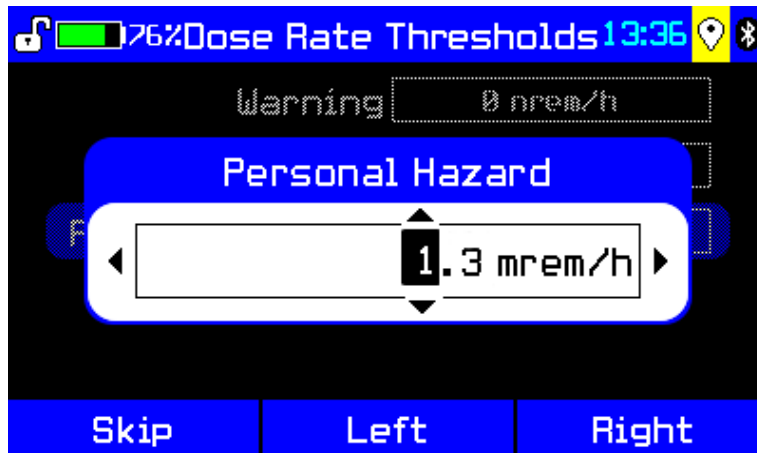

Figure 2-18: Selecting a new component for editing
5. Press **M (Left)** or **R (Right)** to select the next digit you want to change (Figure 2-18)